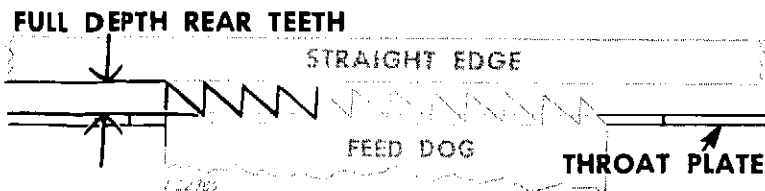
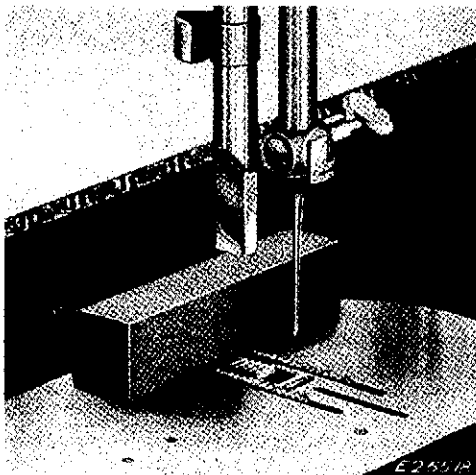
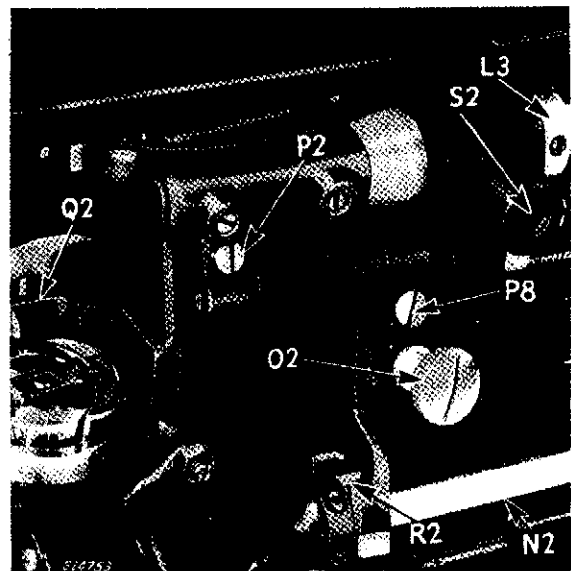
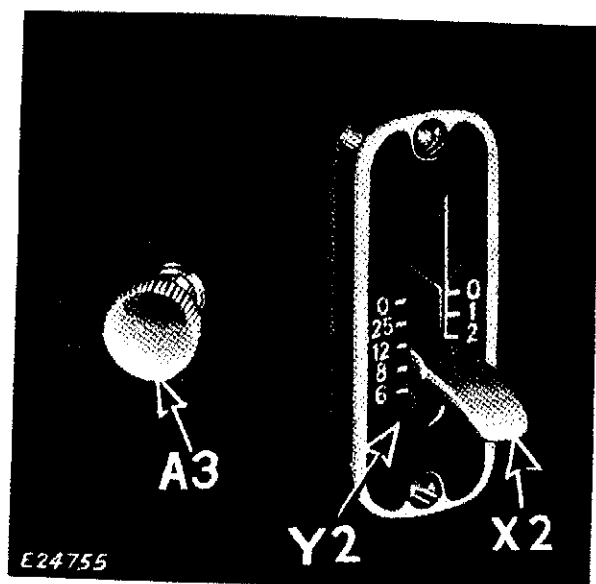

Fig. 38. Feed Dog at Correct Height
Fig. 38A. Feed Dog Height Being Set with Gauge
Fig. 39. Adjusting Height of Feed Dog
Fig. 43. Stitch Regulating Handle
Make sure feed throw-out thumb screw **O2**, **Fig. 39** is tightened in place.
To check the height of the feed dog, tighten feed throw-out thumb screw **O2**, **Fig. 39**, turning it clockwise as far as possible. Then set the stitch regulator **X2**, **Fig. 43**, page 33 for the longest stitch.
Turn the hand wheel over toward you until the feed dog is raised to its highest point. In this position, the full depth of the rear teeth of the feed dog, farthest from operator, should project above the top surface of the throat plate, as shown in **Fig. 38**. Gauge No. G34202 for setting correct feed dog height is shown in use in **Fig. 38A**.
To set the feed dog at the correct height, loosen clamping screw **P8**, **Fig. 39** and raise or lower the feed dog **Q2**, **Fig. 39** as required. Then securely tighten clamping screw **P8**.
When setting the feed dog at the correct height as shown in **Fig. 38**, make sure bottom of feed dog **Q2**, **Fig. 39** clears hook assembly before clamping screw **P8** is tightened.
Tighten feed throw-out thumb screw **O2**, Fig. 39.
To adjust the **sidewise position** of the feed dog, loosen feed rock shaft bearing set screw **S2**, Fig. 39 and loosen the two screws on collar **L3**.
The distance between the stitches along the line of feed is termed the **stitch length** and is determined by the setting of the stitch regulator lever **X2**, **Fig. 43** on the stitch indicator plate **Y2**.
When the top surface of the stitch regulator lever **X2**, **Fig. 43** is set level with the "zero" on indicator plate **Y2**, there should be a slight forward movement of the feed so as to get best results in satin stitching.
1. Lock stitch regulator handle at zero position with stop screw **A3**, **Fig. 43**.